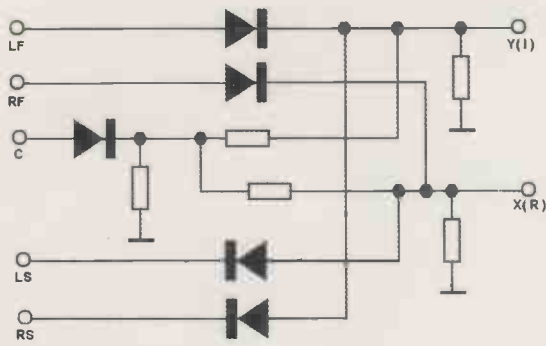

Figure 8: An improved circuit giving better results in the first quadrant.
generate the X(R) and Y(I) signals for the first quadrant. A simplified circuit for so doing is given in Figure 8.